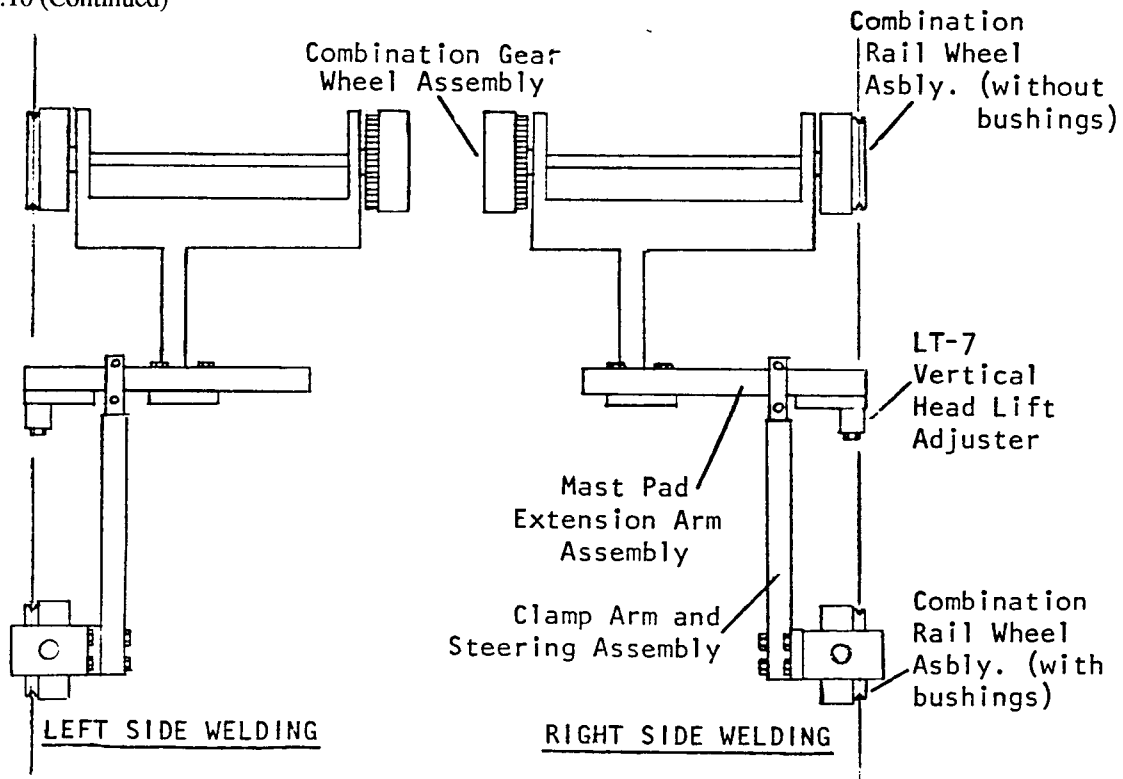

Figure 1
- b. Front Frame Configuration (refer to Figure 1)